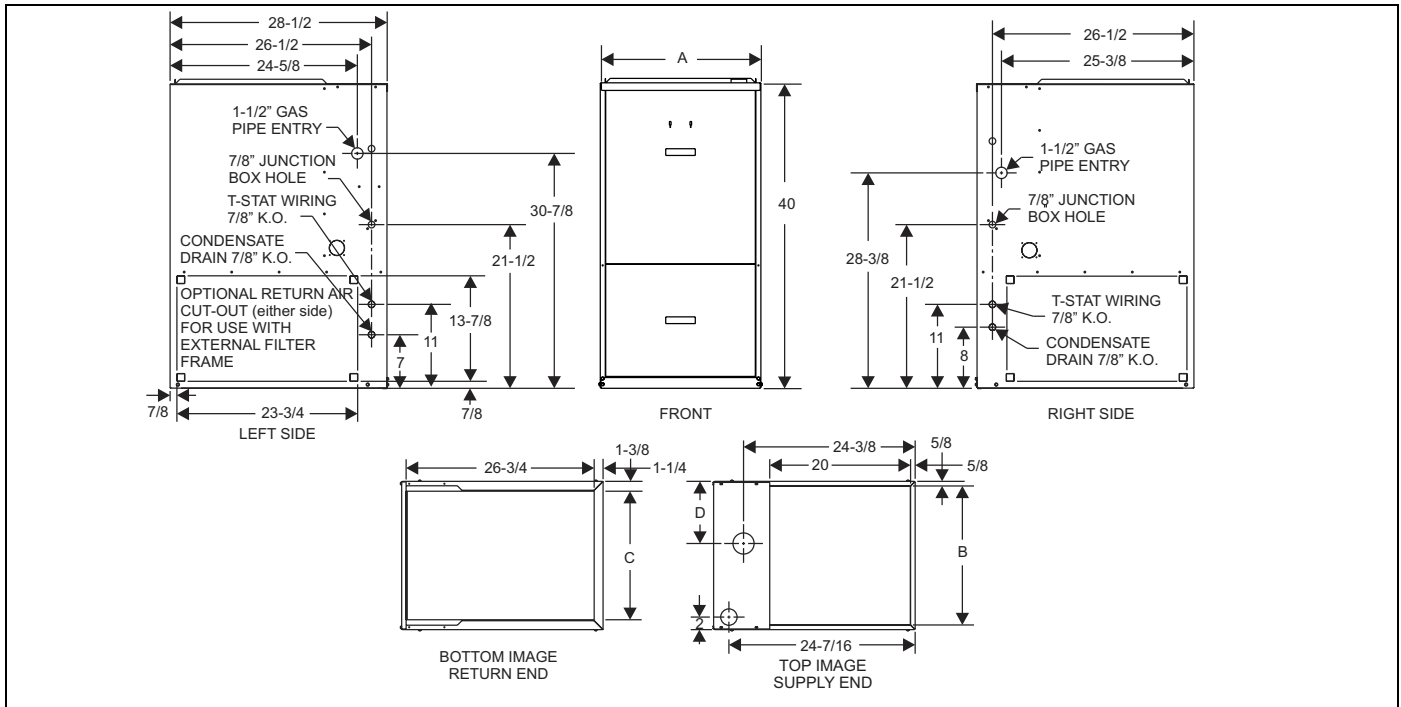

FIGURE 1: Dimensions
4. Bend the 3/4" flanges that will be used to attach the return air plenum using the scribe marks in the furnace base. Refer to Figure 1 "Bottom Image Return End".
5. Be sure to seal the furnace to plenum connections to prevent air leakage. Refer to Figure 1 for unit and plenum dimensions.
Locate and mark the side return opening. Refer to Figure 1 for dimensions of the cutout.
**IMPORTANT:** Some accessories such as electronic air cleaners and pleated media may require a larger side opening. Follow the instructions supplied with that accessory for side opening requirements. Do not cut the opening larger than the dimensions shown in Figure 1.
Gas piping may be connected from either side of the furnace using any of the gas pipe entry knockouts on both sides of the furnace. Refer to Figure 1 dimensions.